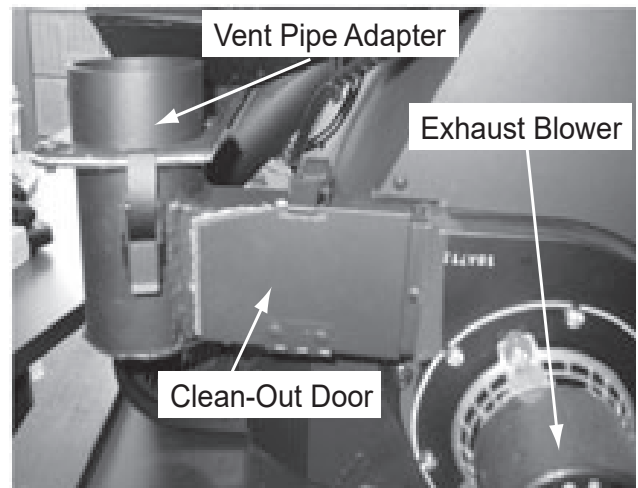

Figure 22.3
- d. Clean the exhaust blower blades while the access cover on the left side is still removed (**Figure 22.3 and Figure 23.4**).